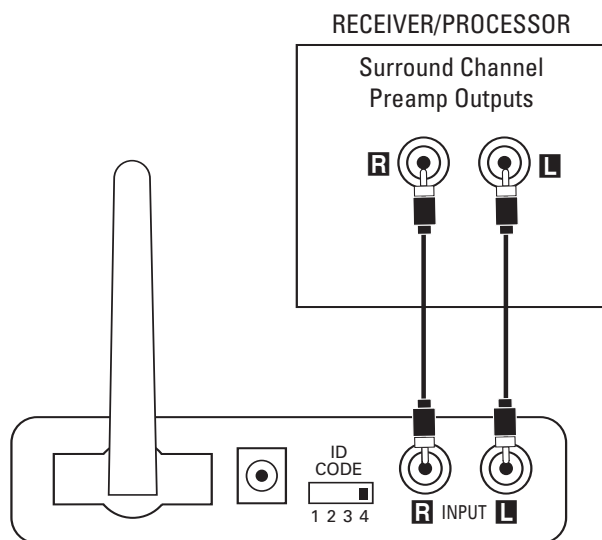

Figure 1.
Connect the interconnect cable (included) to the left and right surround/rear preamp outputs on the back of your source and the input on the transmitter module ⑫, as shown in Figure 1.